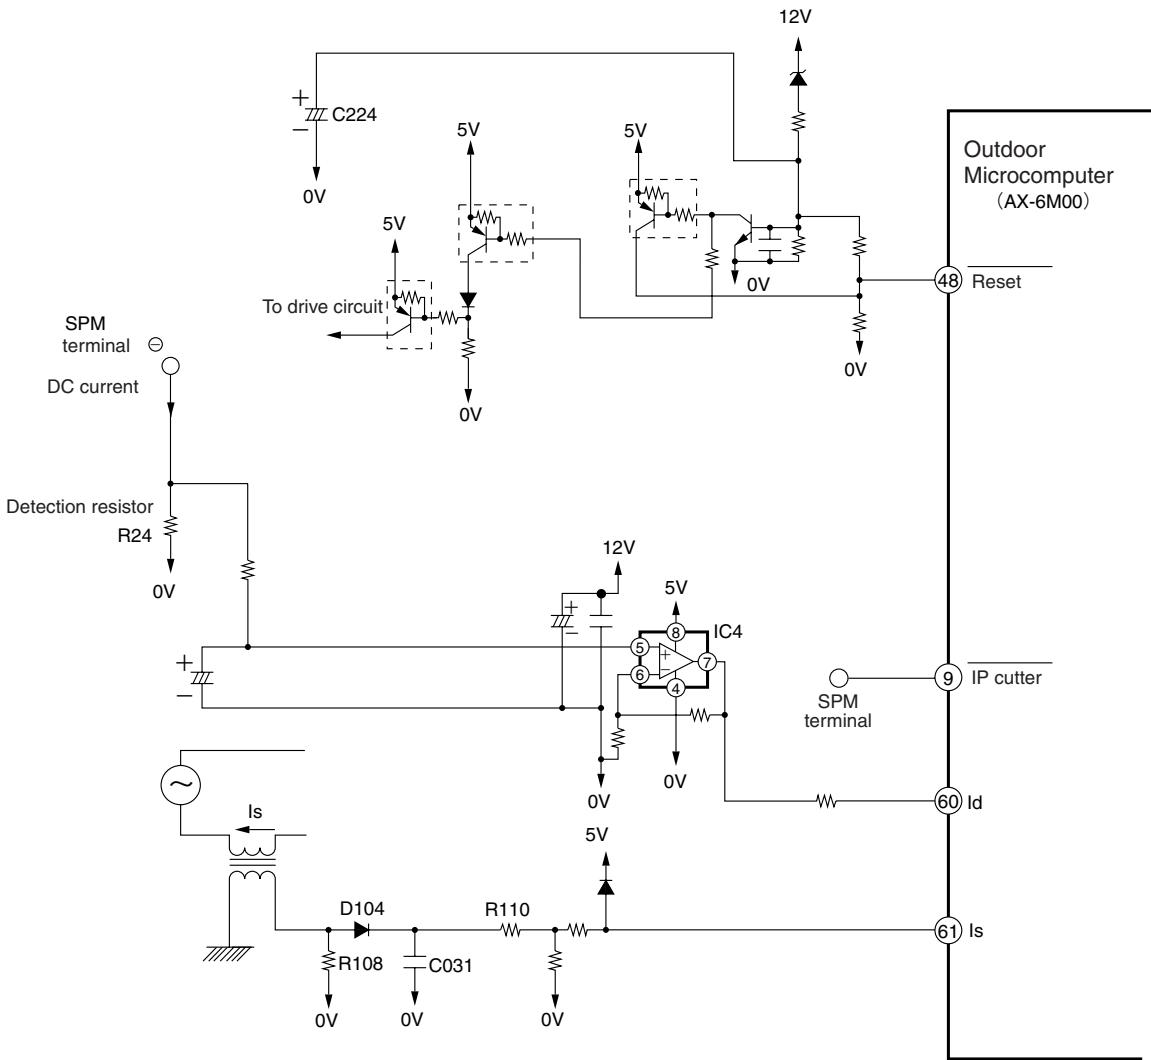

Fig. 7-1 Peripheral circuit of microcomputer (AX-6M00)
• Fig. 7-1 shows the microcomputer and its peripheral circuits.